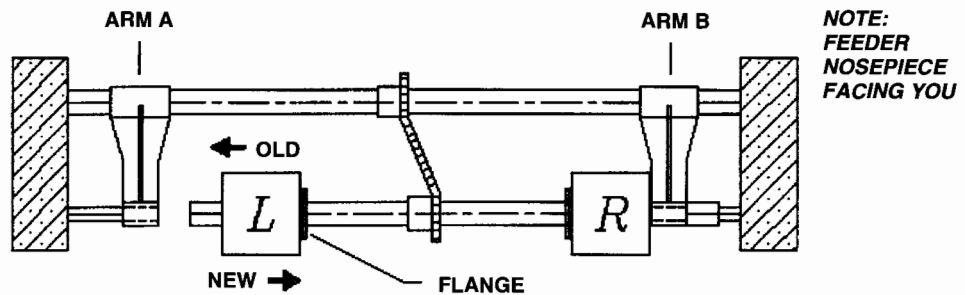

Figure 4-5. Roller-left Replacement
8. Remove the Roller-left and replace it with the new matching Roller-left from your Roller Replacement Kit, as shown in figure 4-5.